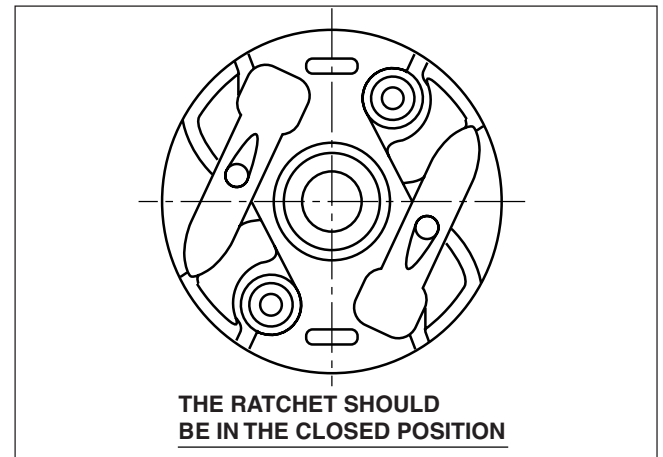

Fig. 13-5
(2) Mount the components
-1 Mount the ratchet into the reel. (Fig. 13-5)